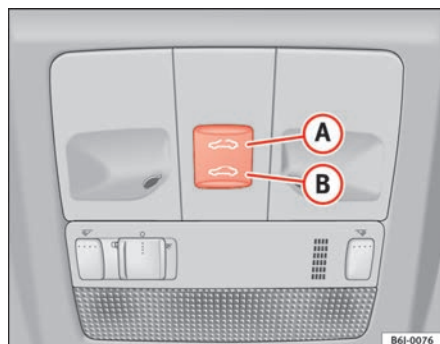

Fig. 49 Panoramic/tilting sunroof
- Press and keep pressed button **(B)** ⇒ fig. 49 ⇒ ⚠, the roof starts to close until the button is released.